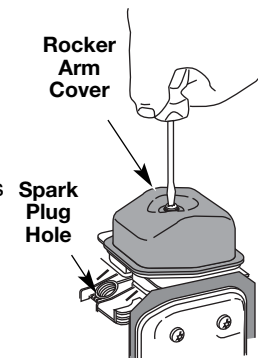

Fig. 28
- Clean dirt from around the rocker arm cover. Remove the screw holding the rocker arm cover with a large flat blade screwdriver or Torx T-25 bit (Fig. 28). Remove the rocker arm cover and gasket.
- Stop the engine and allow it to cool. Remove the six (6) screws on the back of the engine cover with a Flat-head or T-25 Torx screwdriver (Fig. 28).